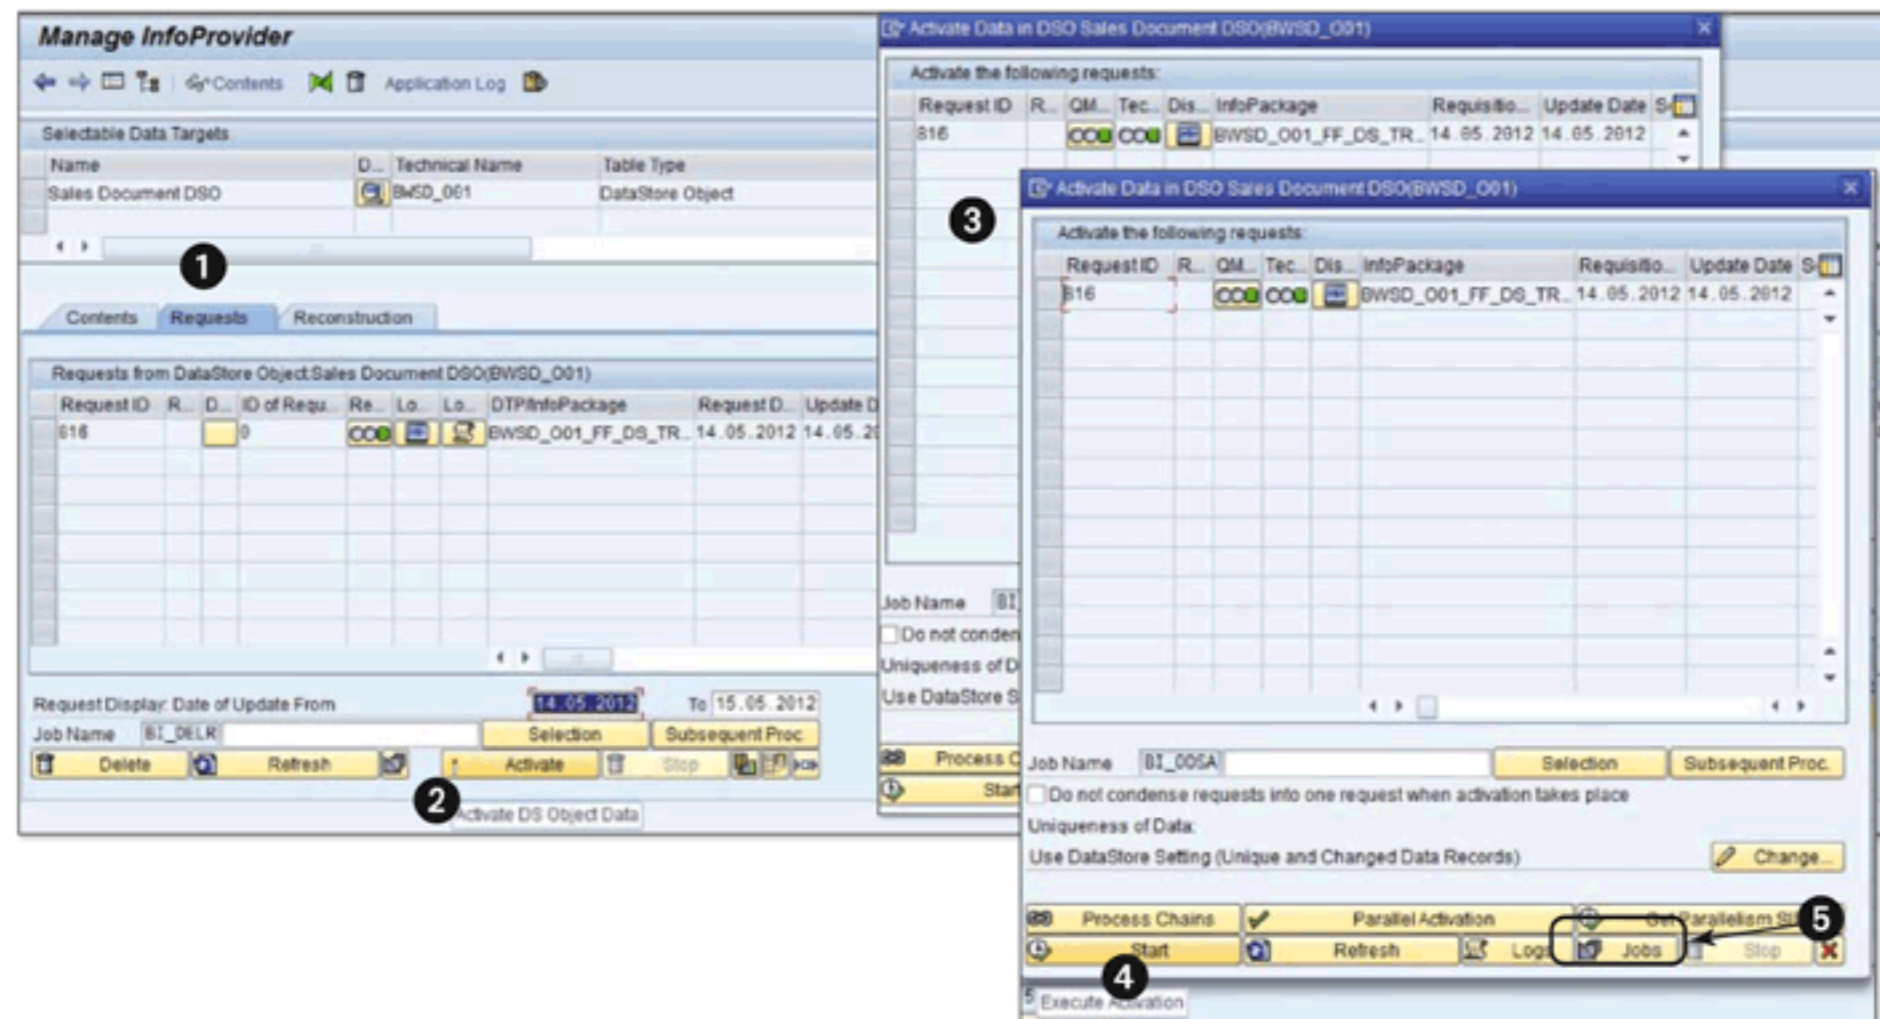
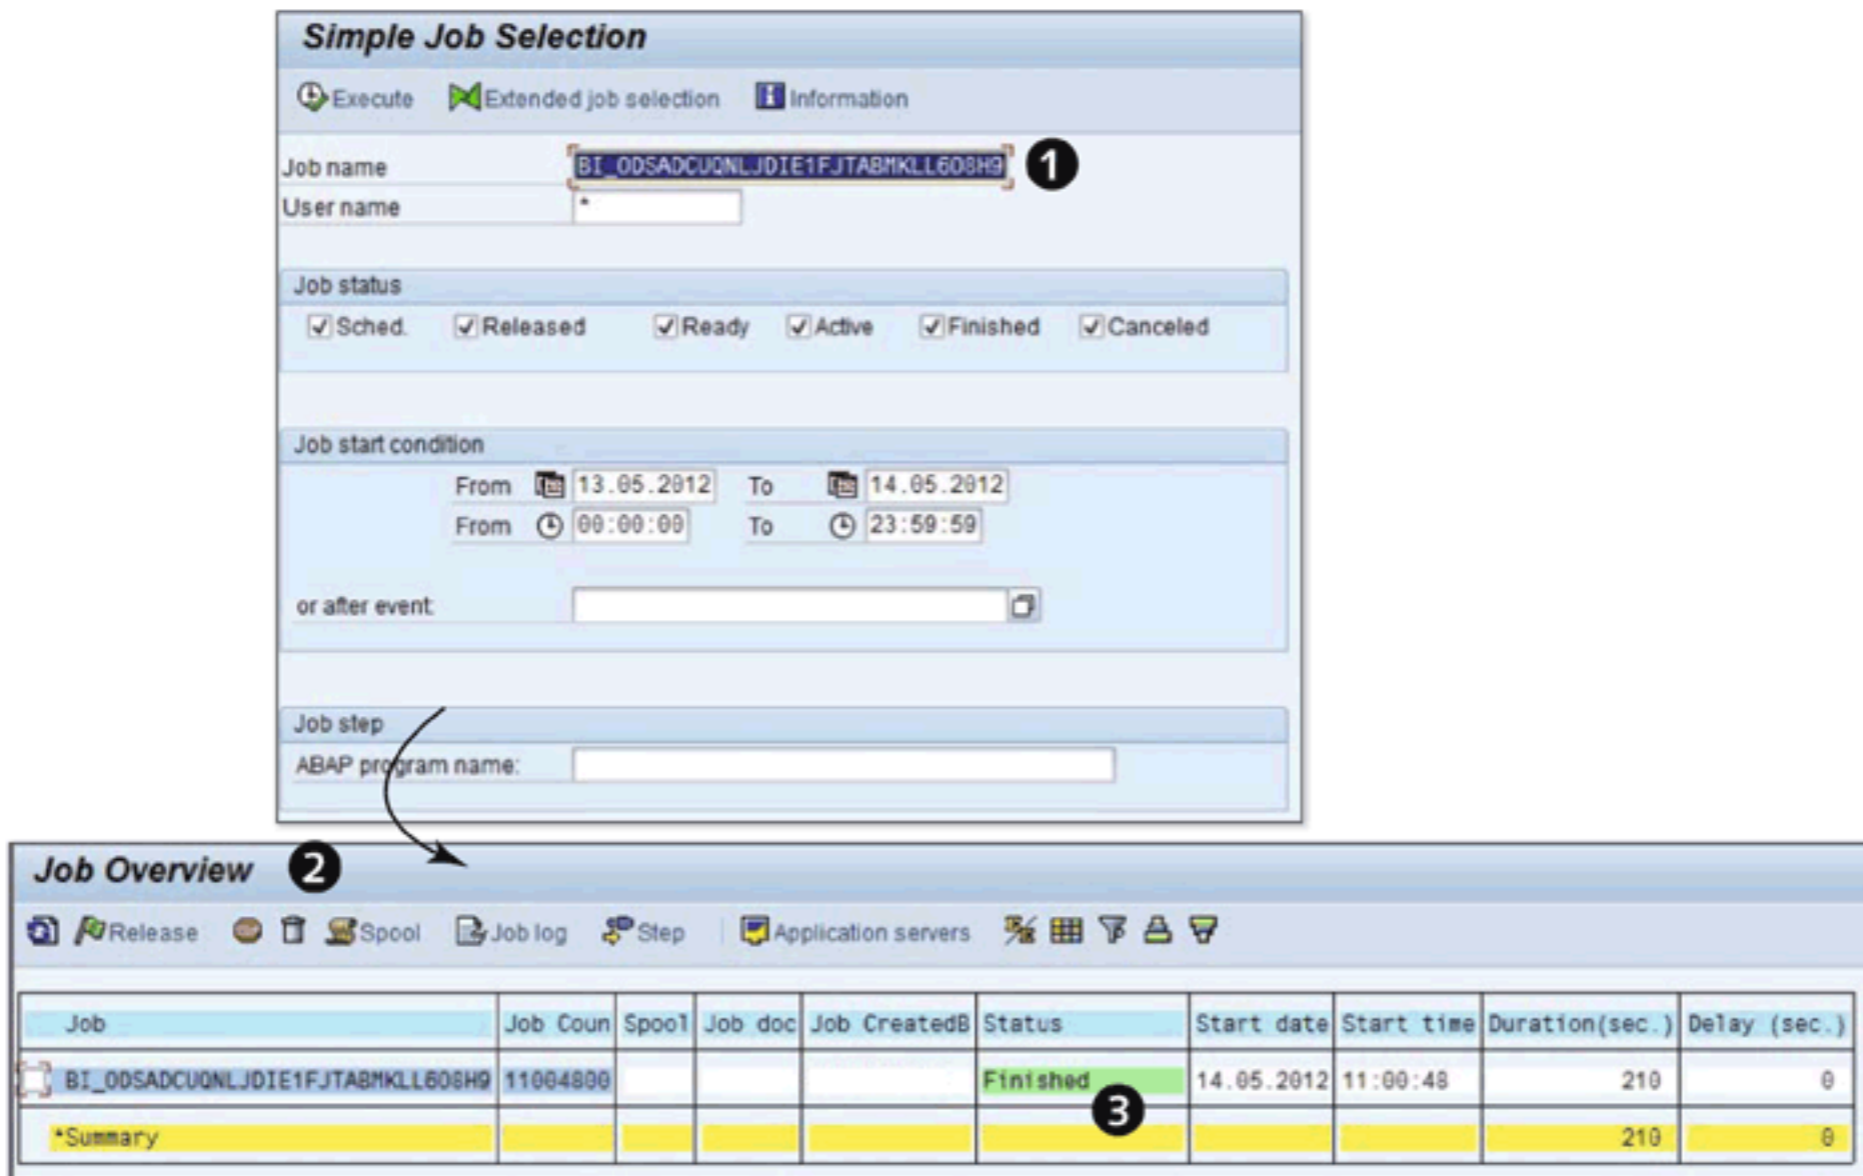

Figure 14.5 Activation of a New Request in a DSO
Figure 14.6 Activation Job Overview
In Section 4.2.2 of Chapter 4, we explained the process of activating requests in the system at the conceptual level. In this section, we explain the actual execution of the activation of a request in a DSO. This is a regular maintenance task that you perform using the REQUESTS tab (❶ of Figure 14.5).
The JOBS button (❺ of Figure 14.5) takes you to the SIMPLE JOB SELECTION screen (❶ of Figure 14.6), and the system prepopulates the entry box for the job name with a typical naming convention: BI_ODS <LONG TECHNICAL NAME>.